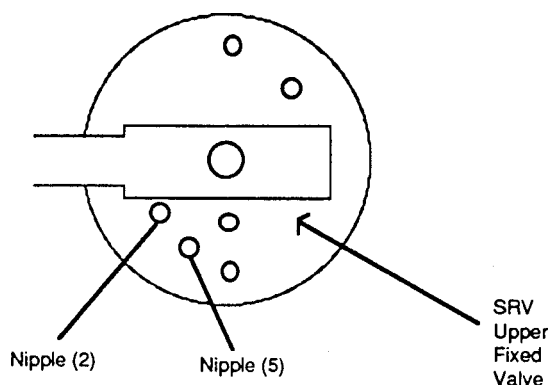

Figure 6-3-12
- C. Disconnect the tube from the nipple (2) of the Upper fixed value of SRV. Figure 6-3-12 shows the location of the nipple.
- C. Disconnect the tube from the nipple (2) of the Upper fixed valve of SRV. Figure 6-3-12 shows the location of nipple.
- C. Disconnect the tube from the nipple (5) of Upper fixed valve of SRV. Figure 6-3-12 shows location of nipple.